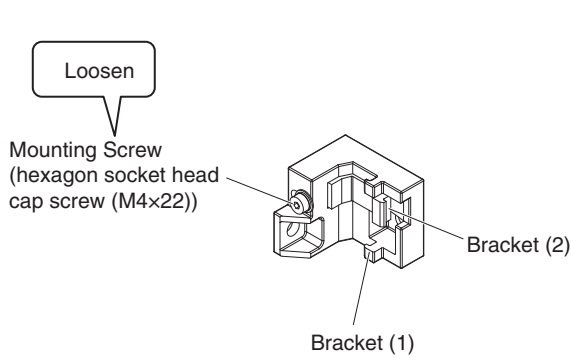
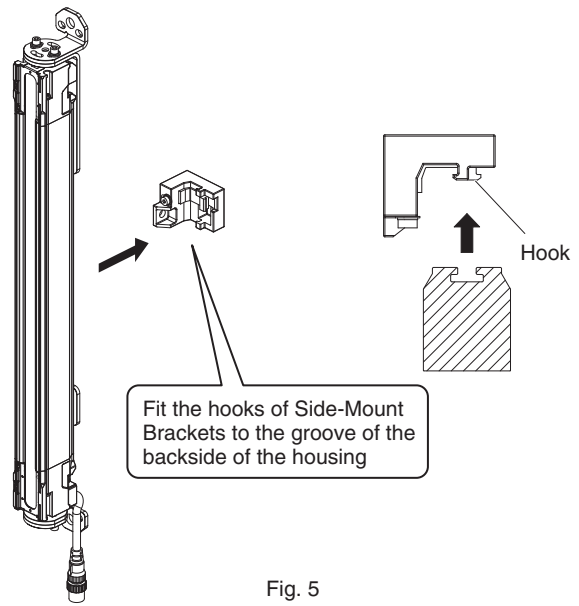

Fig. 4
Fig. 5
4. Fully loosen the Mounting Screw (hexagon socket head cap screw (M4×22)) of the Side-Mount Bracket. (Fig. 4) Then slide the hooks of the Brackets (1) and (2) in the groove of the backside of the sensor housing. (Fig. 5)